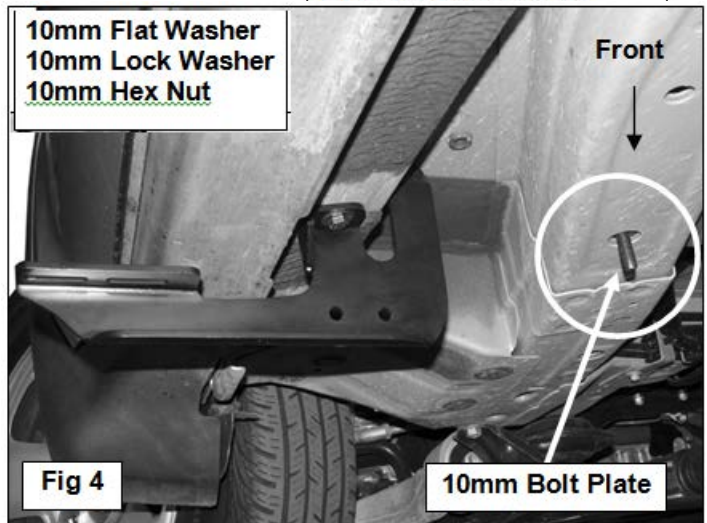
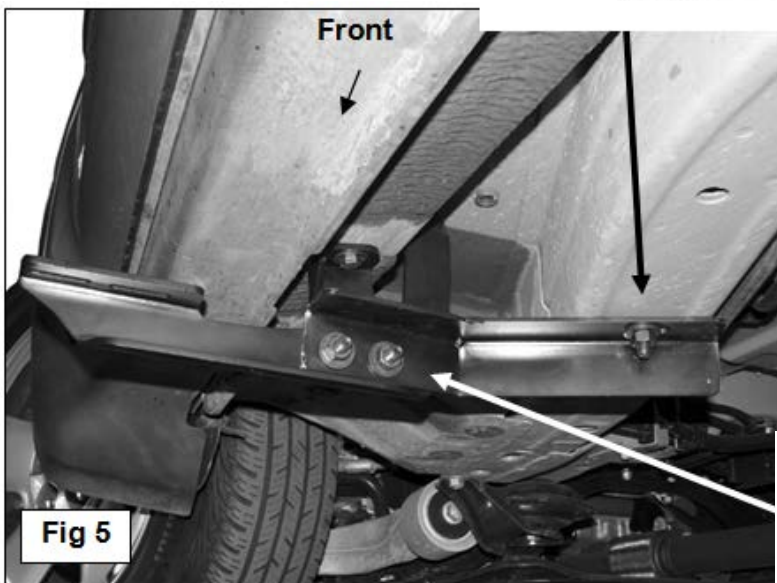

Fig 4
Fig 5
4	Select (1) 10mm Bolt Plate, (FIG 3) . Insert the Bolt Plate into the factory hole in the bottom of the frame channel, (FIG 4) . Rotate the Bolt Plate clock-wise 90- degrees or until it stops turning. NOTE: To help determine the correct inner mounting hole on the frame to use, hold the Support Bracket up to the back of the Front Bracket with the inner end lined up with the hole in the bottom of the frame channel. (FIG 5)
5	Bolt the driver side Support Bracket to the back of the front Mounting Bracket with (2) 10mm x 35mm Hex Bolts, (4) 10 mm Flat Washers, (2) 10mm Lock Washers and (2) 10mm Hex Nuts, (FIG 5) . Next , hang the inner end of the Support Bracket from the previously installed Bolt Plate using (1) 10mm Flat Washer, (1) 10mm Lock Washer and (1) Hex Nut. Do not fully tighten hardware at this time.